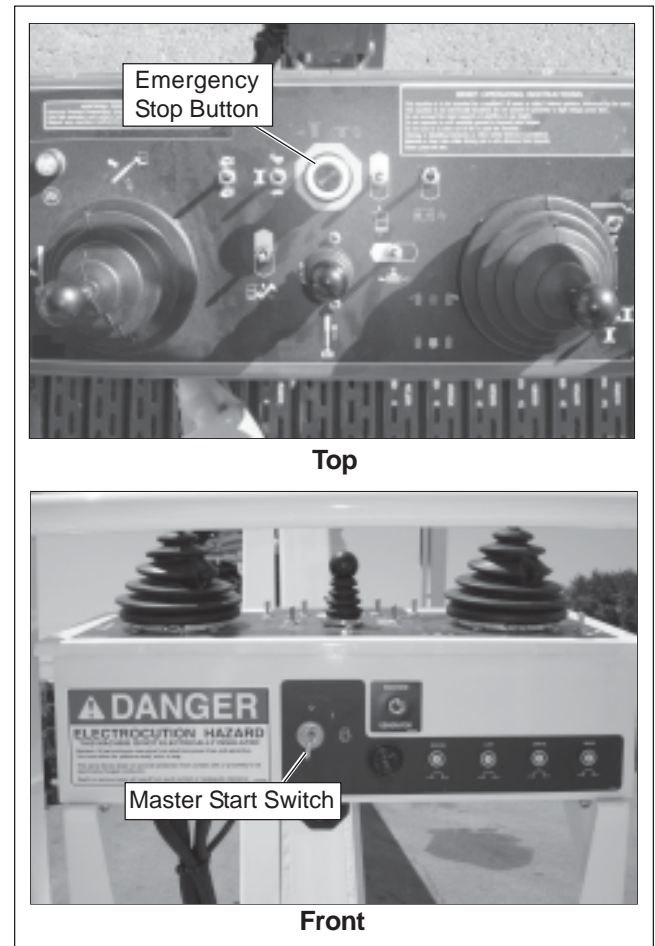

Figure 8.3 – Upper Controls
6. Pull the emergency stop outward (refer to Figure 8.3).